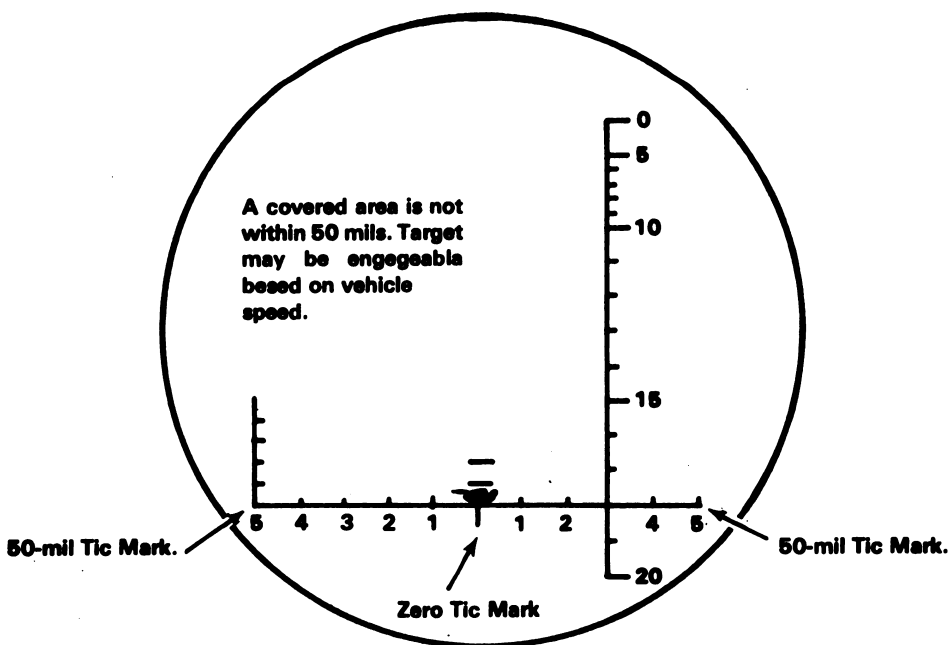

Figure 2. Binocular Sight Reticle.
b. Place the zero tick marks of the horizontal line at the center of the target (as in figure 2 below). If the area between the target and the 50-mil tick mark, in the direction of travel, is clear of obstructions, the target can be engaged.